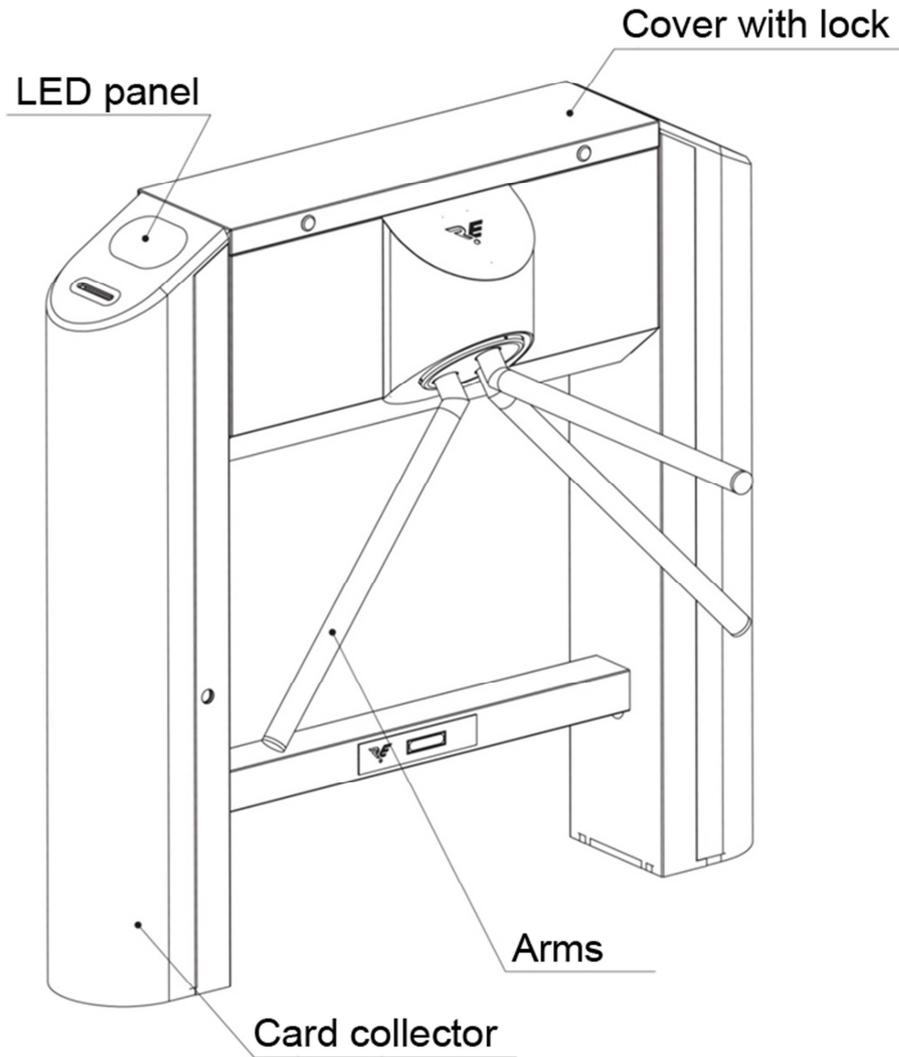

Fig. 1 General view of turnstile
Turnstile housing and arms are made of brushed stainless steel. The turnstile can be equipped with an integrated card collector. In this case a turnstile is marked PRAKTIKA T-02- (R). If the turnstile is not equipped with card collector the turnstile is marked PRAKTIKA T-02. Proximity card readers can be installed on both variants. In the upper part of the housing there is a removable cover with lock for quick access to the motherboard where PS, RC and ACS cables are connected. In the stands there are holes for cable routing (Fig. 1).